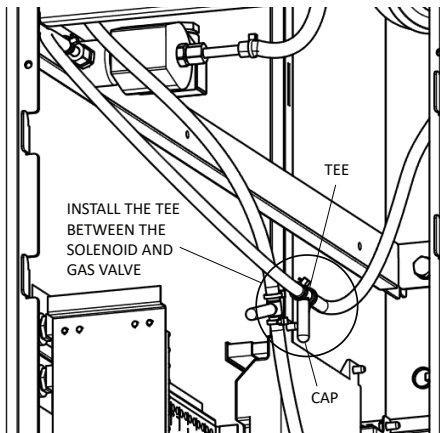

Figure 5. Install Tee Between Solenoid and Gas Valve
15. The supplied tee shall be installed between the solenoid and the gas valve for air measurement purposes. Secure all hosing with supplied cable ties. Ensure the tee remains capped when not in use. See **Figure 5**.